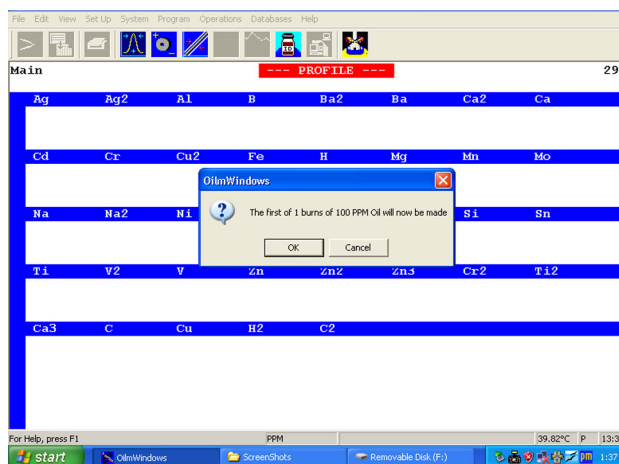

Figure 2-10, Optical Profile Screen
1. To begin the optical profile procedure press function key 4 (F4), left click the profile icon, or select Operations/Profile from the pull down menu options.
2. The screen shown in Figure 2-10 appears and calls for the first analysis of the profiling standard..